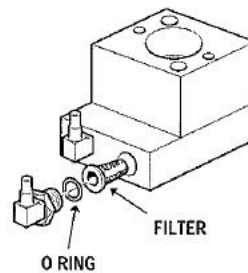

Fig 2.3.20
7. Check Fuel Filter (refer to Fig 2.3.20)